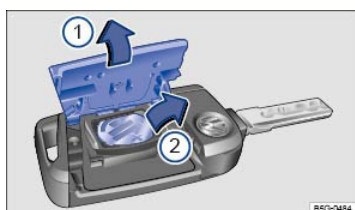

Fig. 54 Remote control vehicle key: Opening the battery compartment cover and removing the old battery.
Key to *⇒* Fig. 54 :
The battery is in the back of the remote control vehicle key under a cover *⇒* Fig. 54①.
- Remove the cover on the back of the remote control vehicle key *⇒* Fig. 54① in the direction of the arrow using a suitable object such as a coin *⇒* ①. This action may require some force.
- Use a thin object to pry the battery out of the battery compartment *⇒* Fig. 54②.
- Position the new battery and press it into the battery compartment (opposite direction of the arrow) *⇒* ①.